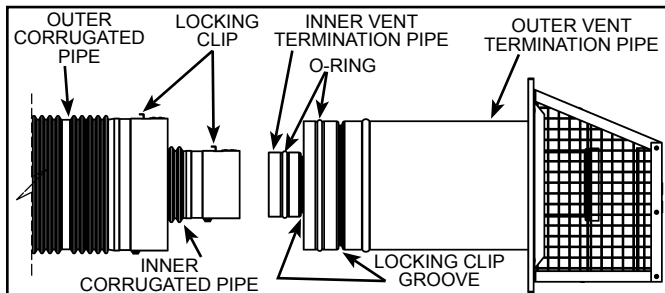
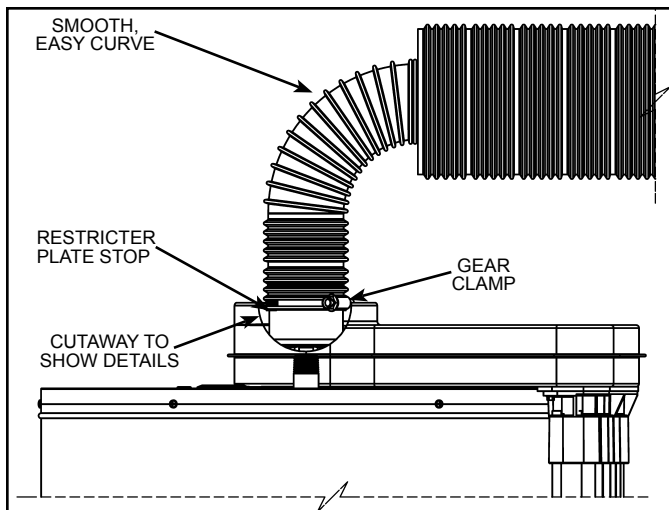
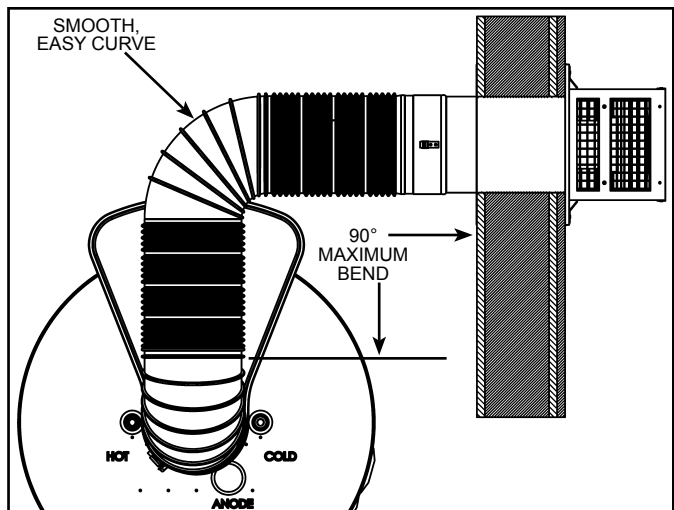
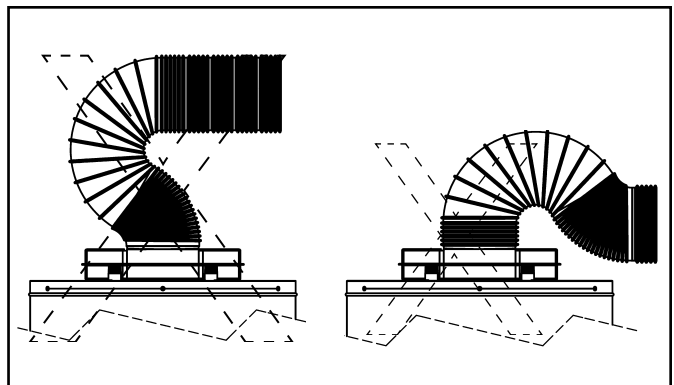

Figure 19
Figure 24
Figure 26
Figure 27
Figure 19 thru Figure 26 show how to assemble and connect the venting system.
- Do not use the restrictor plate in an offset installation (see Figure 26).
To connect the vent piping to the vent termination hood, first slide the inner (3") corrugated pipe over the inner vent termination pipe. Continue this action until the locking clip on the corrugated pipe snaps into position in the corresponding groove (see Figure 19). Secure corrugated pipe with screw (supplied) inserted through hole opposite the locking clip.
Repeat this process with the outer (6") corrugated pipe and lock it into position on the outer pipe on the vent termination (see Figure 19). Secure corrugated pipe with screw (supplied) inserted through hole opposite the locking clip.
Bend both the corrugated pipes toward the flue connection on the water heater. Pull and connect the inner corrugated pipe to the water heater's flue tube reducer with hi-temp red silicone (included) and gear clamp. Make sure this connection is tight and leak proof (see Figure 24).
Note: To ensure good exhaust gas flow, bend vent piping using a smooth, easy curve as shown in Figure 24 thru Figure 26. Do not use reverse or compound curves as shown in Figure 27.